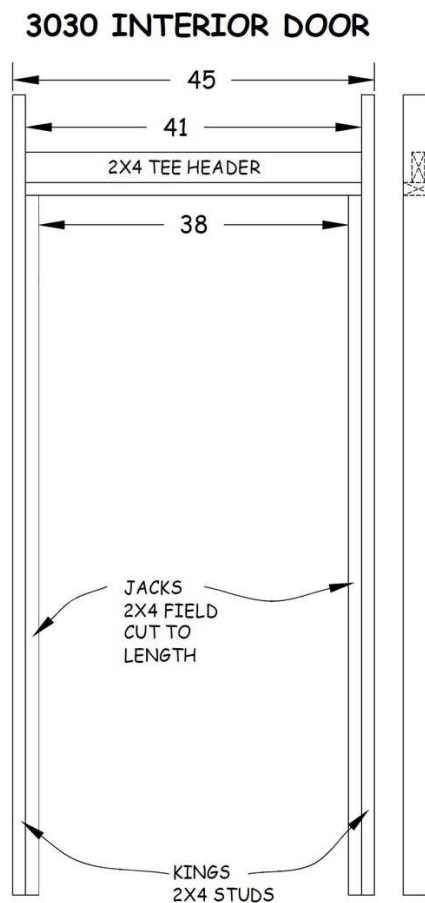

Figure 4-2. Example of Interior Wall Component Assembly Drawing.
1. Referring to the Component Assembly Drawings for interior components in the House Plan Support Documents, assemble the interior door components (see Figure 4-2 for an example of an interior component assembly drawing).
3. Identify the appropriate header and place it so the horizontal portion of the “T” header is on top of the Jack studs, tight against the King studs. Nail through the King studs into both ends of the header pieces with 3¼” collated nails - two nails in the horizontal piece and one nail in the vertical piece of the header (see Figure 4-2).